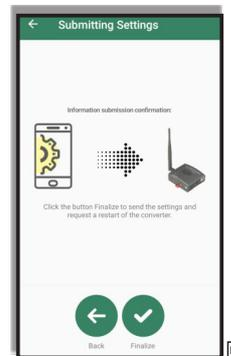
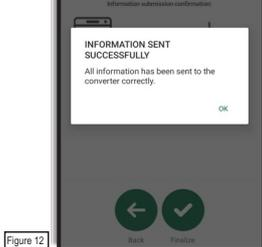

Figure 11
Figure 12
Step 3: Submitting Settings (Figure 11). Select the **Finish** button to have the app send the settings to the converter. If successful, the message in Figure 12 will be displayed. The converter will restart and start operating in the selected mode, trying to connect to the configured network.